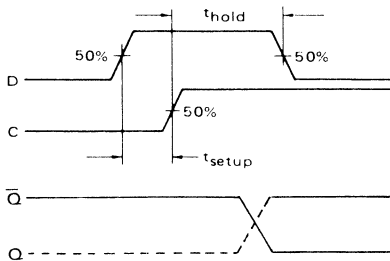

FIGURE 11a – SETUP AND HOLD WAVEFORMS FOR MECL LOGIC DEVICES
sent at the Data input (D) to insure proper operation of the device. The  $t_{hold}$  is defined similarly as the minimum time after the positive transition of the clock pulse (C) that the information must remain unchanged at the Data input (D) to insure proper operation. Setup and hold waveforms for logic devices are shown in Figure 11a.